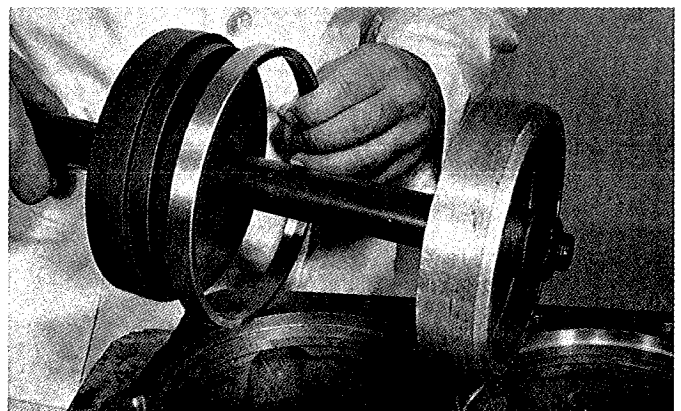

FIGURE 19
2. Lightly coat the inside diameter and bottom of newly cut bore with PT 7260 Loctite Compound. (See Figure 18.) Insert bushing on driver. (See Figure 19.) Using